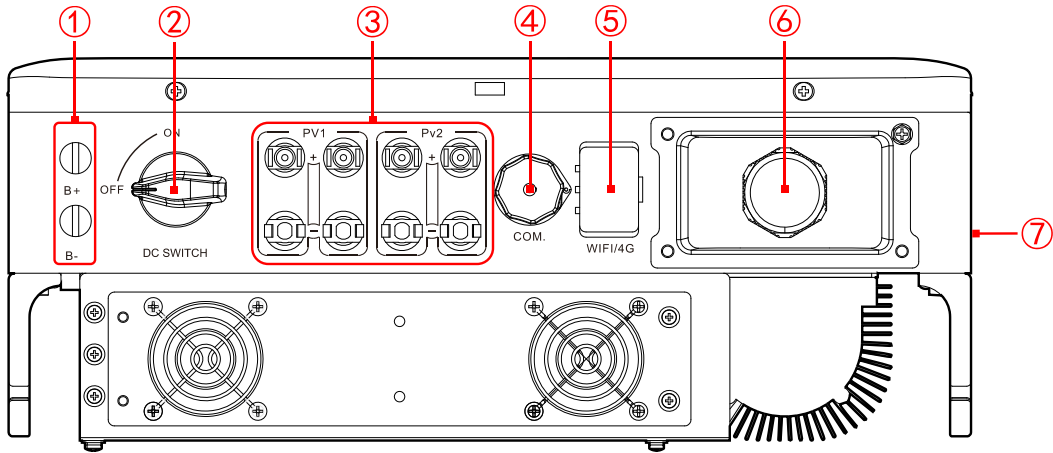

Figure2-5 Bottom layout
The external terminals are all located at the bottom of the inverter, including PV input, AC output, DC switch and communication interface, etc. as shown in Figure2-5.
The DC switch (as shown in the ② of Figure2-5) connects inverter with the PV string.